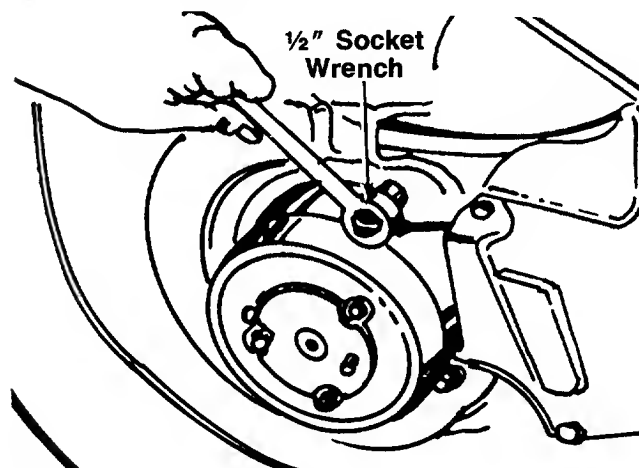

FIGURE 29.
11. Support the engine with one hand. Remove the three self-tapping screws which secure the deck and blade brake/clutch to the engine. A 1/2" socket wrench is required. See figure 29.